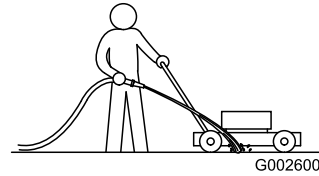

Figure 23
1. With the engine running on a flat paved surface, spray a stream of water in front of the **right** rear wheel (Figure 23).